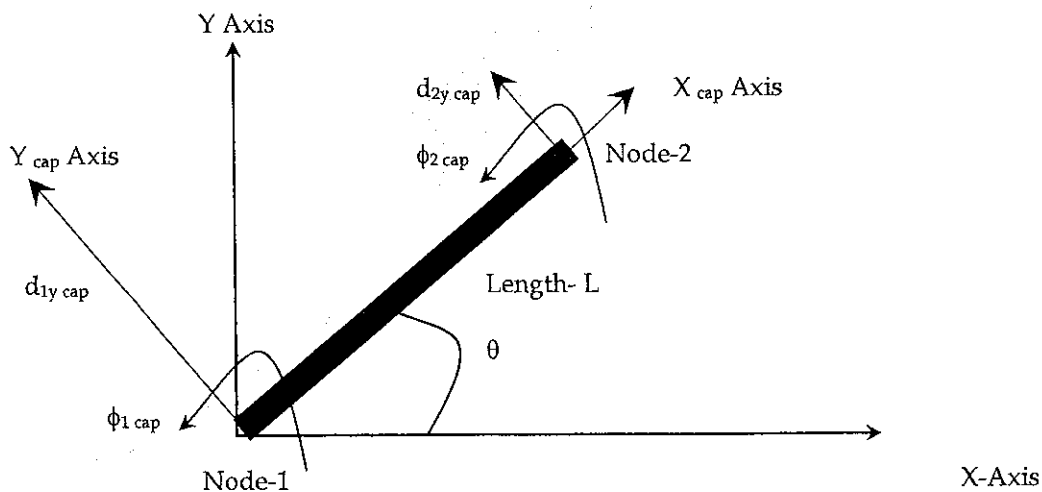

Figure 4: Arbitrarily oriented beam element
Q.5 Develop a global elemental stiffness matrix for an arbitrarily oriented two dimensional beam element shown in Figure 4. [5]